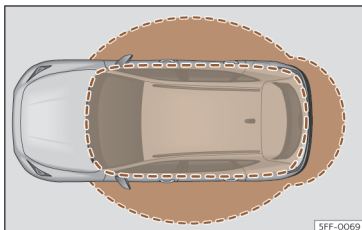

Fig. 74 Keyless Access: proximity zones.
- The vehicle is unlocked when the vehicle key is detected nearby >>> **Fig. 74**. All turn signals flash twice.